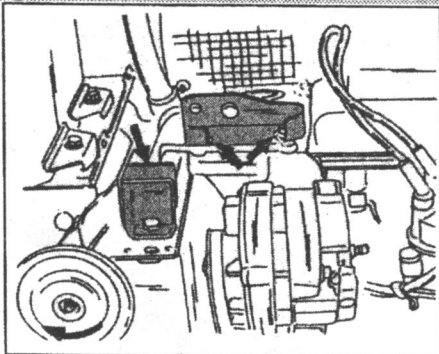

Fig. 1.11. — The two arrows show where the lifting brackets are attached. The horn is moved towards the outside to prevent damage.
- The lifting brackets already mentioned earlier on must now be bolted to the engine. First remove the two front securing bolts from the engine mounting (one bolt at a time), fit the lifting bracket and retighten the bolts. To prevent damage to the horn, slacken its attachment and push it as far as possible into the direction of the arrow (L.H. bottom, Fig. 1.11).